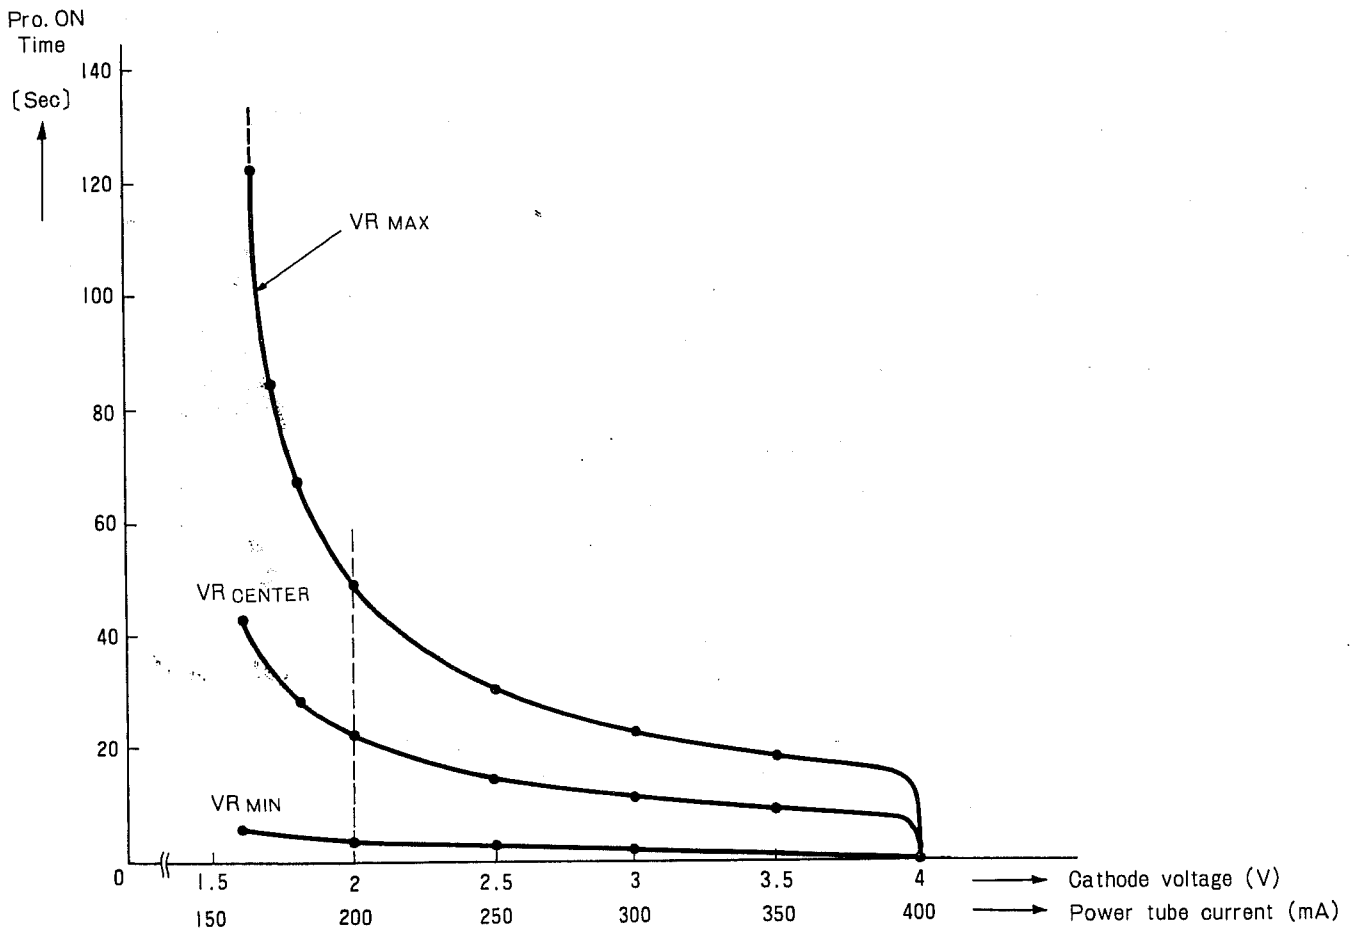

FIG. 3 PROTECTOR CHARACTERISTICS
0.7 V across the base-emitter junction — the same level as produced by the 240 mA fault current. Thus, the thyristor is turned on by this voltage to energize relay RL1, and protect the power tubes. To reset the protection circuit, shift the exciter stand-by switch to the receive mode or turn the LINEAR ON switch off. This procedure is necessary since relay RL2 has been self-held by "make" contacts since operation of relay RL1. The thyristor however has been automatically reset. Fig. 3 shows the operating characteristics of the protection circuit.
(1) Linear amplifier does not operate in transmit mode.	(a) Confirm that remote cable is connected to exciter. External stand-by circuit is inserted in series with TL-911 linear-on switch. Linear amplifier, therefore, will not operate by merely turning linear-on switch on. Linear amplifier is set to transmit mode by connecting remote cable to exciter, turning linear-on switch on, and exciter stand-by switch to transmit mode. (b) Is remote cable properly connected between exciter and linear amplifier? (Accessory remote cable is for TS-515 or TS-510. For use with other exciters, change pin connections, referring to CONNECTIONS OF REMOTE CABLE on page 11.) (c) Confirm that voltage is on in relay circuit.
(2) Output meter does not deflect.	(a) SWR SEN knob on panel is in fully counterclockwise position, or meter switch is not in FWD position. (SWR meter sensitivity is increased by turning SWR SEN knob in the clockwise direction.) (b) SWR detection circuit is inserted into coaxial cable connecting relay RL2 and antenna connector. Confirm that the circuit is rectifying RF voltage. Also check meter switch circuit.
(3) Overcurrent protection circuit does not operate.	(a) Protection circuit is turned off since PRO TIME knob on rear of set is set in the fully counterclockwise direction. Note: This knob should not be adjusted in normal operation. Power tubes may be damaged if transmission is continued with protection circuit off. (b) Confirm that the protection circuit is powered. (The voltage should be approximately DC 15 V at pin 28 of X53-1000-00.) (c) Protection will start only after an extended period at a plate current of around 150 mA. This, however, is not a trouble but is due to the operating characteristic of the protection circuit. See Fig. 3.
(4) Overcurrent protection circuit trips too quickly.	(a) Confirm that PRO TIME knob, on the rear, is set to proper operation time. (Refer to ALIGNMENT for the time adjustment.) (b) Rated exciter input to TL-911 is 100 W. If driven by more than 100 W, protection will trip more quickly than rated due to increase in I_p. See Fig. 3. Protection will trip quickly if transmission is continued at an I_p of around 300 mA. This, however, reduces the life of the power tubes, and drive should be reduced. (c) If linear amp tank circuit is improperly adjusted, plate dissipation will be greater under this condition. I_p will rapidly increase with the increase in tube temperature and protection will trip more quickly. This usage, in turn, imposes an extreme overload on the tubes, causing them to flash. The tank circuit, therefore, should be adjusted until tubes deliver maximum output for a given rate of plate current.
(5) Protection circuit trips instantaneously when operator whistles into the microphone in the SSB mode or talks in a stronger voice.	(a) This occurs from an overdrive in which whistling instantaneously swings I_p to 400 mA or greater. Although instantaneous, this large current will rapidly consume the life of power tube cathodes and exciter microphone gain should be reduced to avoid this. (b) Variable resistor VR6 contained in the control unit is set to an instantaneous protection level of below 400 mA. Readjust the potentiometer by referring to ALIGNMENT.